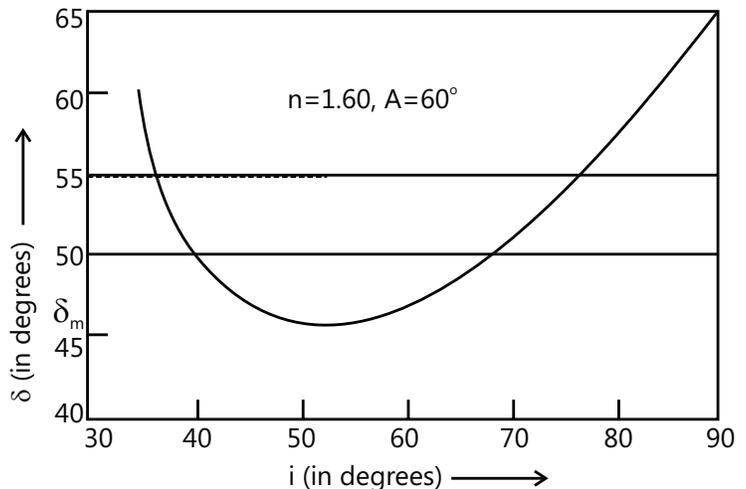

Figure 27.36
- (i) Measure the angle of deviation  $\delta_1$  and the angle  $BAC$  (angle  $A$ ) of the prism (Fig. 27.36) with a protractor and write the values of these angles indicated in the diagram.
- (k) Record observation in tabular form with proper units and significant Fig 27.36. Sample graph looks like the adjacent Fig 27.36.